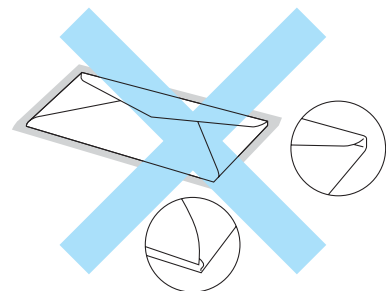

Figure 1-9
- with each side folded as shown in Figure 1-9